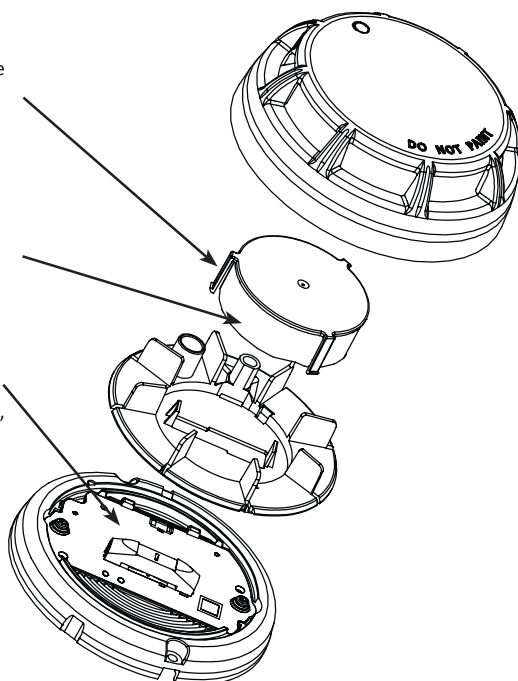

FIGURE 5: Remove Optic Cage from Detector for Cleaning (PAD100-PD only)
4. Remove optic cage (FIGURE 5) from detector circuit board by gently gripping the sides of the optic cage base and lifting from detector circuit board.
5. Remove optic cage from optic cage base, by gently squeezing the three connector arms and very gently lifting from optic cage base (FIGURE 5).